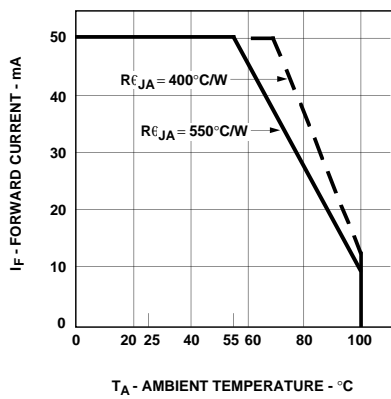

Figure 5. Maximum Forward DC Current vs. Ambient Temperature. Derating Based on T_{JMAX} = 110°C.
3. Derate linearly as shown in Figure 5.